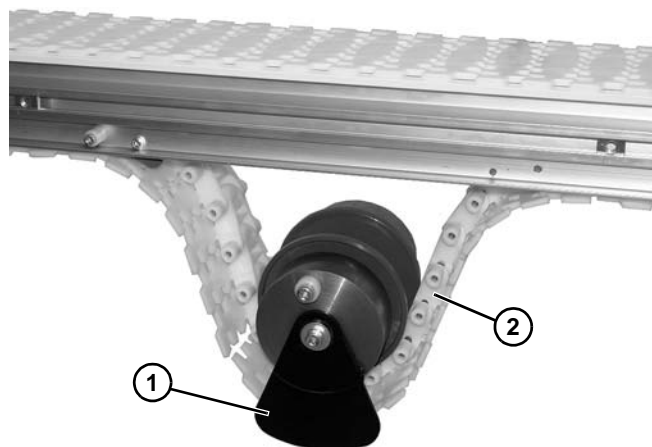

Figure 60
1. Install idler pulley assembly (**Figure 60, item 1**) onto belt (**Figure 60, item 2**).